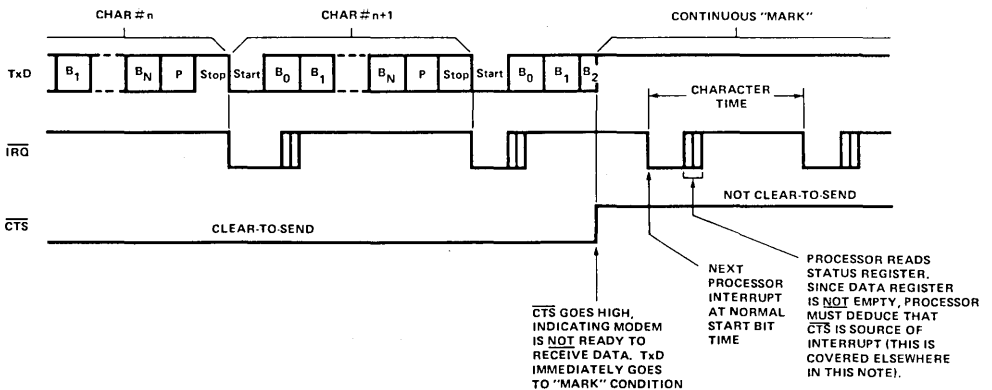

Figure 4-4. EFFECT OF CTS ON TRANSMITTER
4.1.4 Effect of CTS on Transmitter (Figure 4-4)